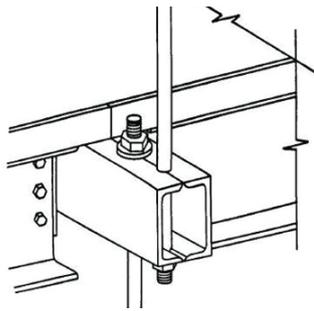

Fig. 5. An offset hanger connection that neglected the kinked (eccentric) load path through the connection.
**Look for kinked connections:** “Kinked connections” are those where loads traveling through the connections follow irregular joggling (eccentric) three-dimensional load paths. Such connections induce secondary stresses in members. The EOR must locate these connections and either eliminate the kinks by reframing, or deal with the kinks by providing concept connection details showing designable and constructable connections (see Figures 5 and 6).